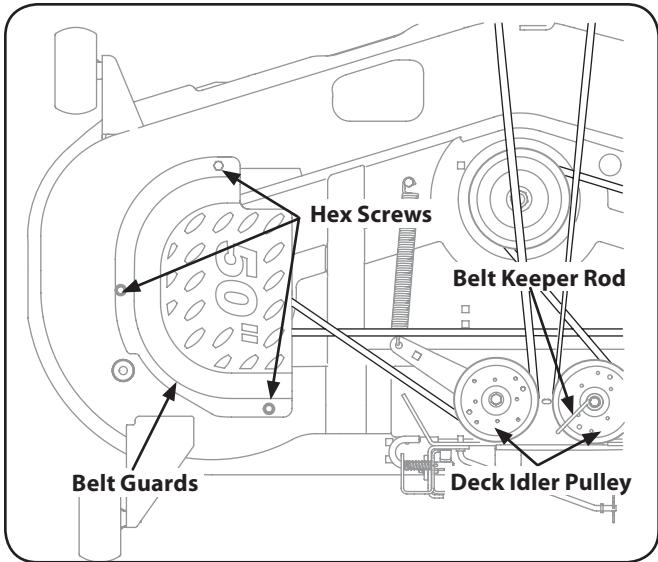

Figure 7-7
2. Remove the belt guards by removing the hex screws that fasten them to the deck. See Fig. 7-7.
3. Loosen, but do not remove the belt keeper rod on the pulley located near the back of the deck. See Fig. 7-7.